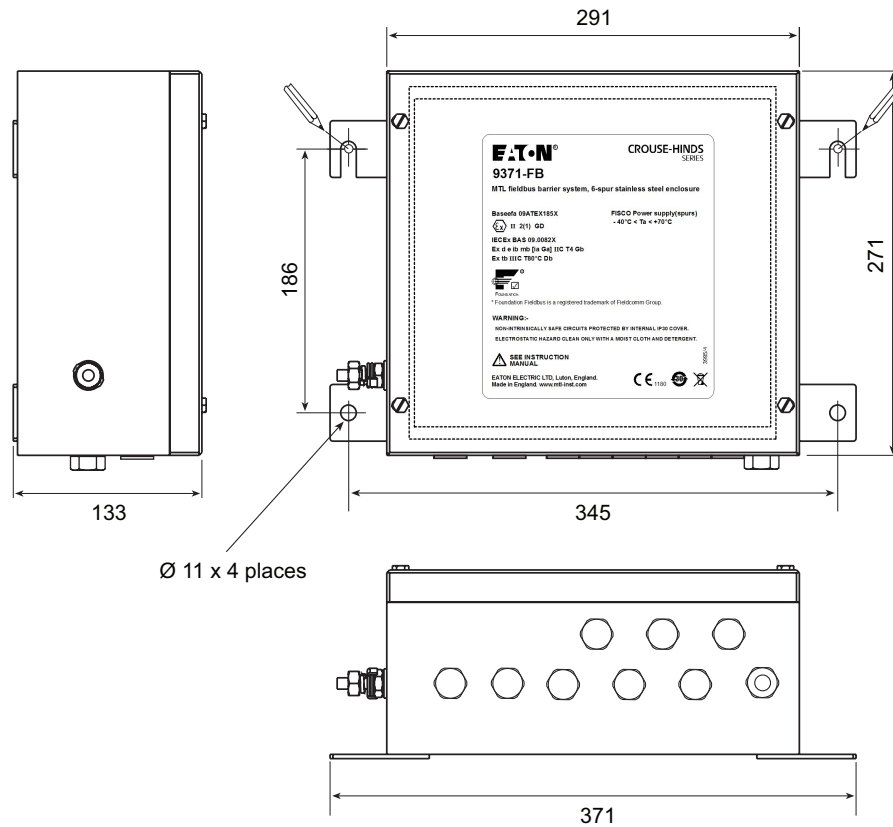
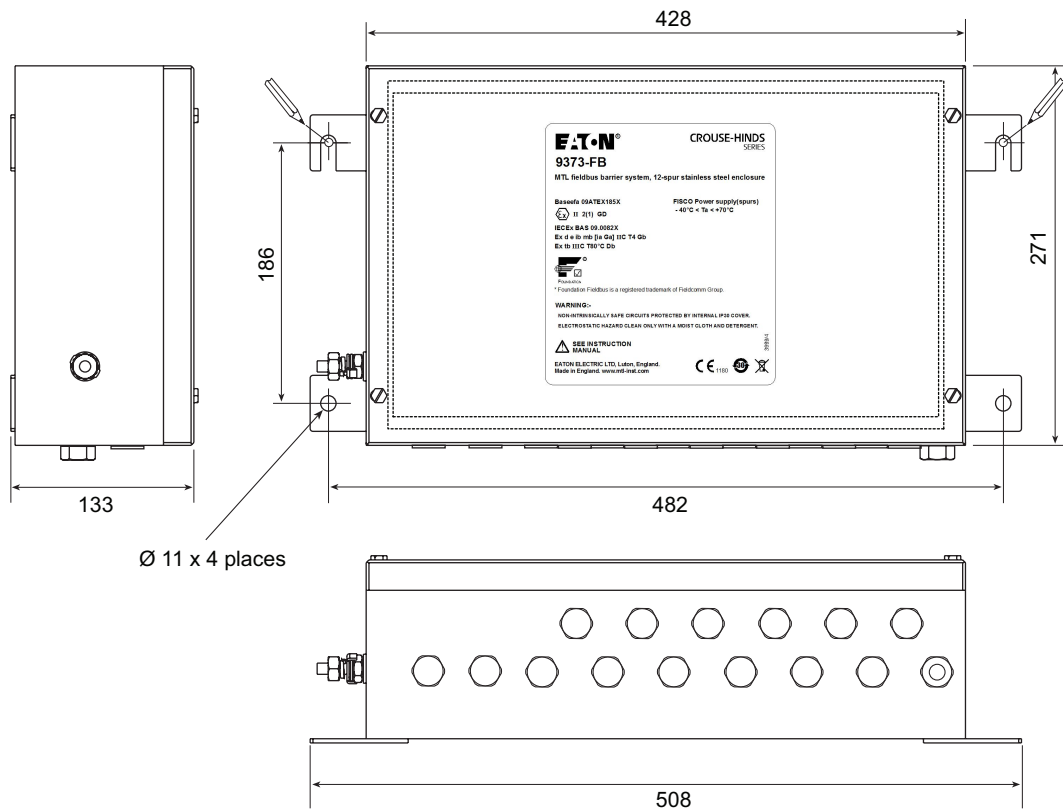

Figure 3.1 - External dimensions and mounting hole positions for the 6-way enclosure (9371-FB-XX-SS)
Figure 3.2 - External dimensions and mounting hole positions for the 12-way enclosure (9373-FB-XX-SS)
See Figures 3.1 and 3.2 for the dimensions, fixing locations and cable gland positions for both enclosure models.
- c) The enclosure is designed for mounting on a vertical surface, with the cable entry at the lowest point, as shown in the upper part of Figure 3.1 or Figure 3.2.
- e) All the necessary gland holes have been prepared in the enclosure. One has a breather fitted and the others are fitted with appropriate blanking plugs. Where the blanking plugs are replaced by cable gland, the fitted glands must be Ex e certified and have an ingress protection (IP) rating that maintains the overall rating of the enclosure.
- Prepare holes in the mounting surface, on the centres shown in Figure 3.1 or 3.2, to accept suitable screws/bolts for mounting.
The enclosure can be used as a template. With help from at least one other person, hold it in the position required and mark the surface through the top slotted lugs only (as shown in Figures 3.1 and 3.2). Open up these hole positions to a suitable size and depth.